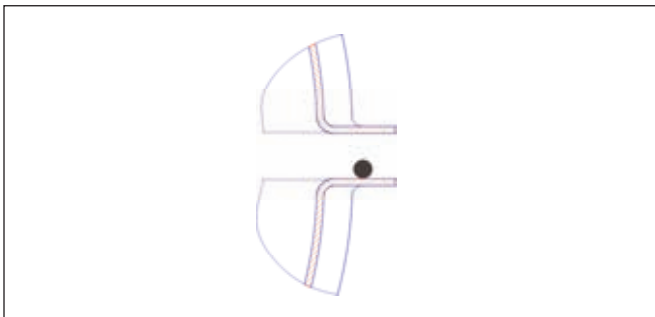

FIGURE 7-6
7.3.2. The flange should evenly line up all the way around the tank. (See FIGURE 7-6.)